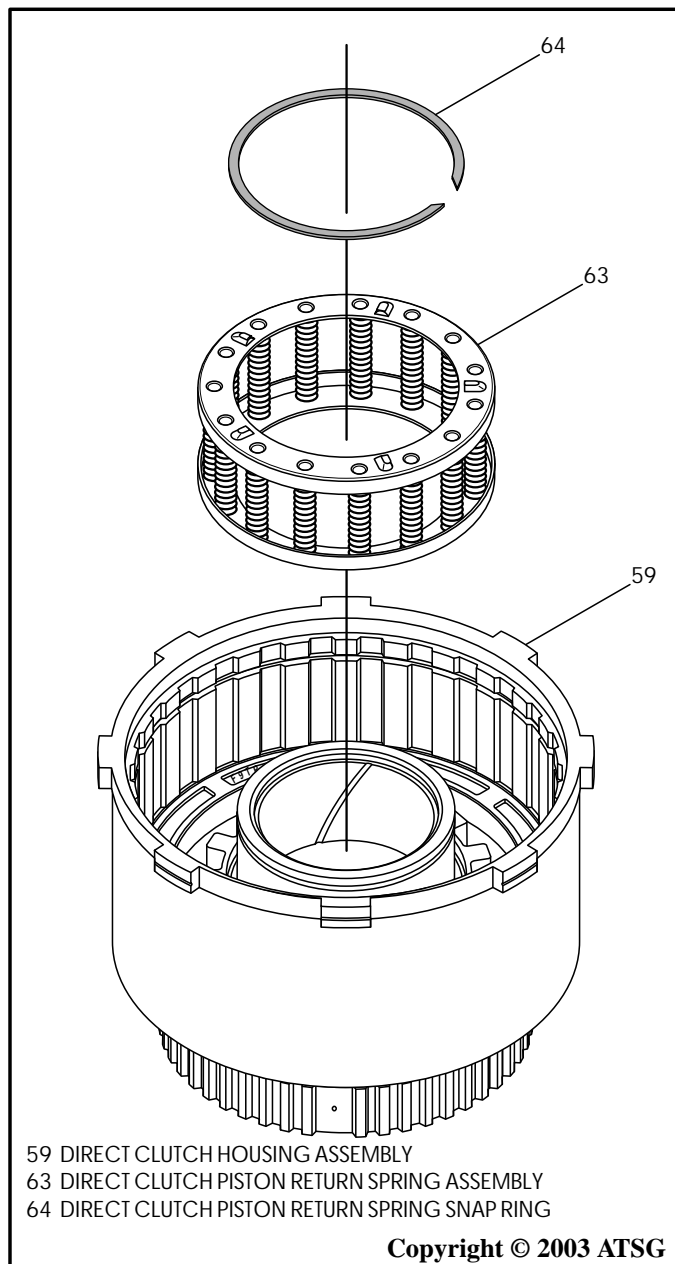

Figure 118
15. Install the direct clutch piston return spring into direct clutch housing, as shown in Figure 118.
16. Compress the return spring assembly using a foot press and install the direct clutch return spring snap ring (See Figure 118).